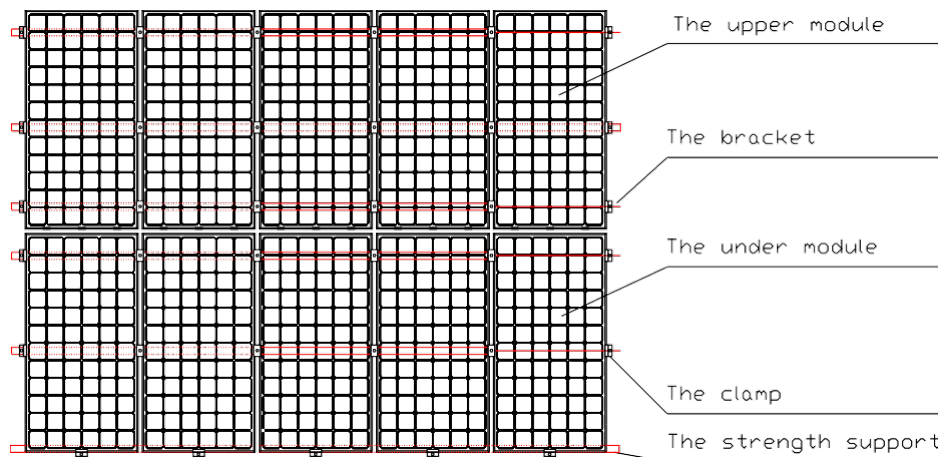

FIG 4 Schematic diagram of reinforcement mounting of module
- Notice: For the roof system installed in the areas that ever experienced relatively heavy snowfall or snow cover, the customer shall reinforce the mounting system at the bottom frame of the module where it is located near the roof edge. The mounting system reinforcement prevents the bottom frame from being pressed and damaged due to snow fall and ice damming, and avoid the module damage due to melt snow freezing in daytime. SUNERGY suggests to selecting the support reinforcing mechanism shown in Figure 4.